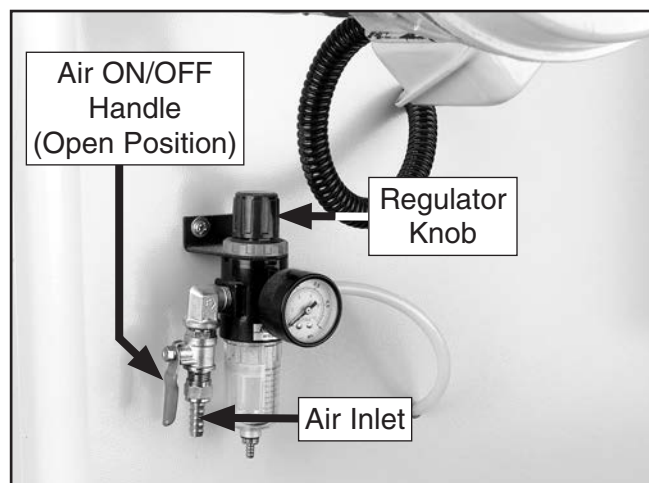

Figure 11. Air inlet components.
1. Connect hose from air compressor to air inlet (see **Figure 11**) on regulator.
3. Lift regulator knob (see **Figures 11–12**) and turn it until air pressure gauge reads 75 PSI.